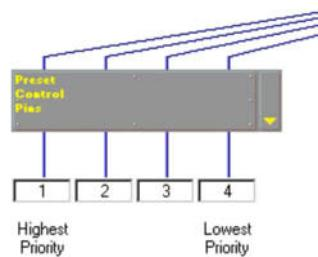

Figure 55 – Priority Encoding
- d) If you are using priority encoding for control input, enter the appropriate preset numbers under the preset control block (see figure 55 on the following page).
For control input, the preset control block displays a value box beneath each pin for specifying preset numbers, as pictured to the right in figure 55. When the block initially appears, the default values start at one and increment from left to right. These values can be changed by clicking in each box and typing any number, from 1 to 128. In the event that a user inadvertently presses a combination of the external control switches, the device will change to the highest priority preset.